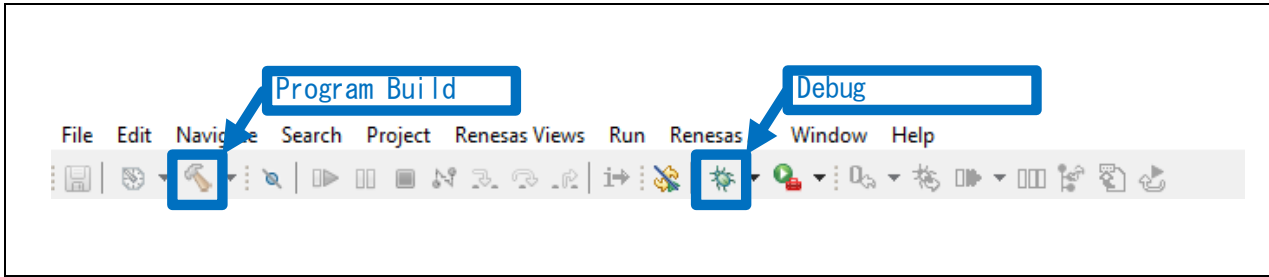
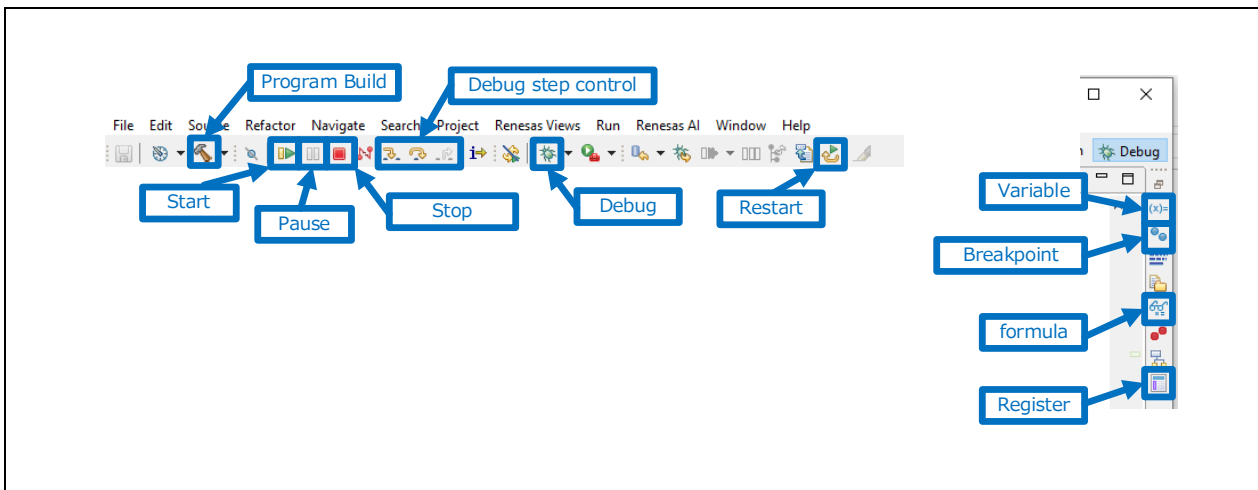
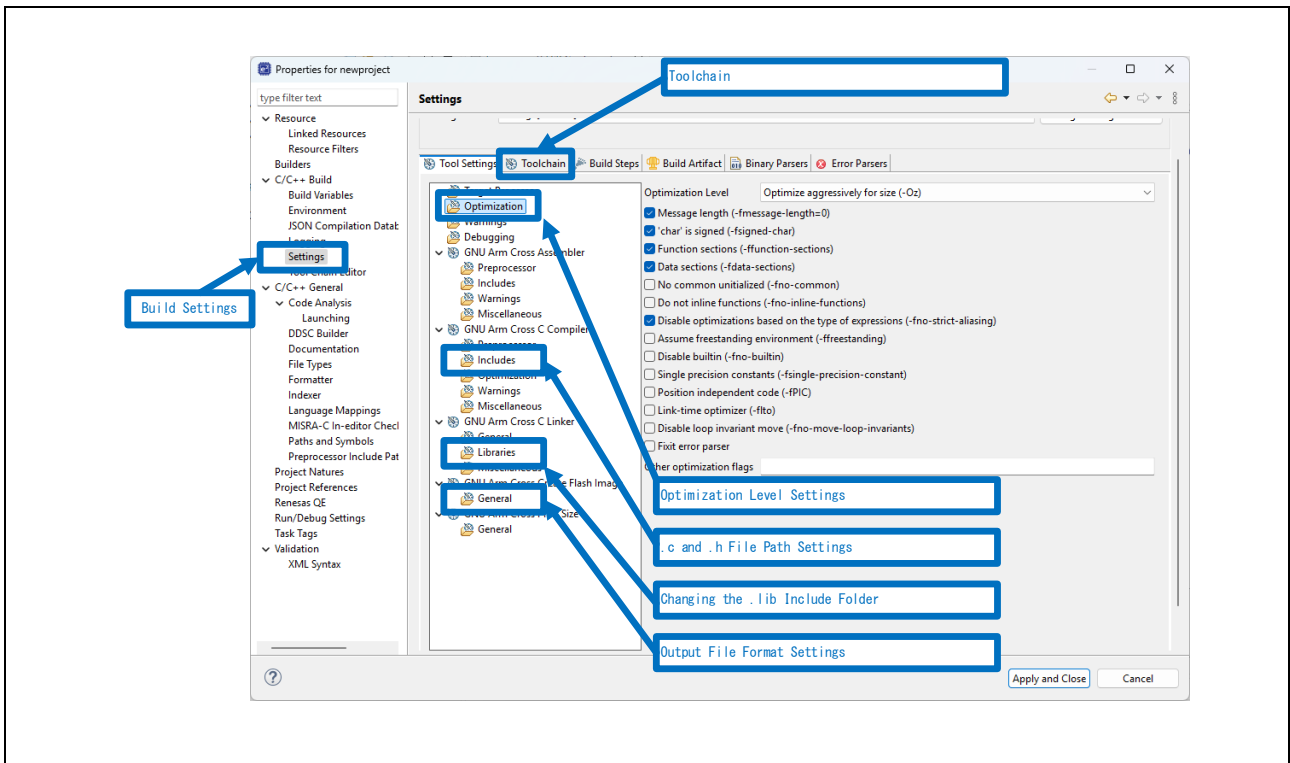
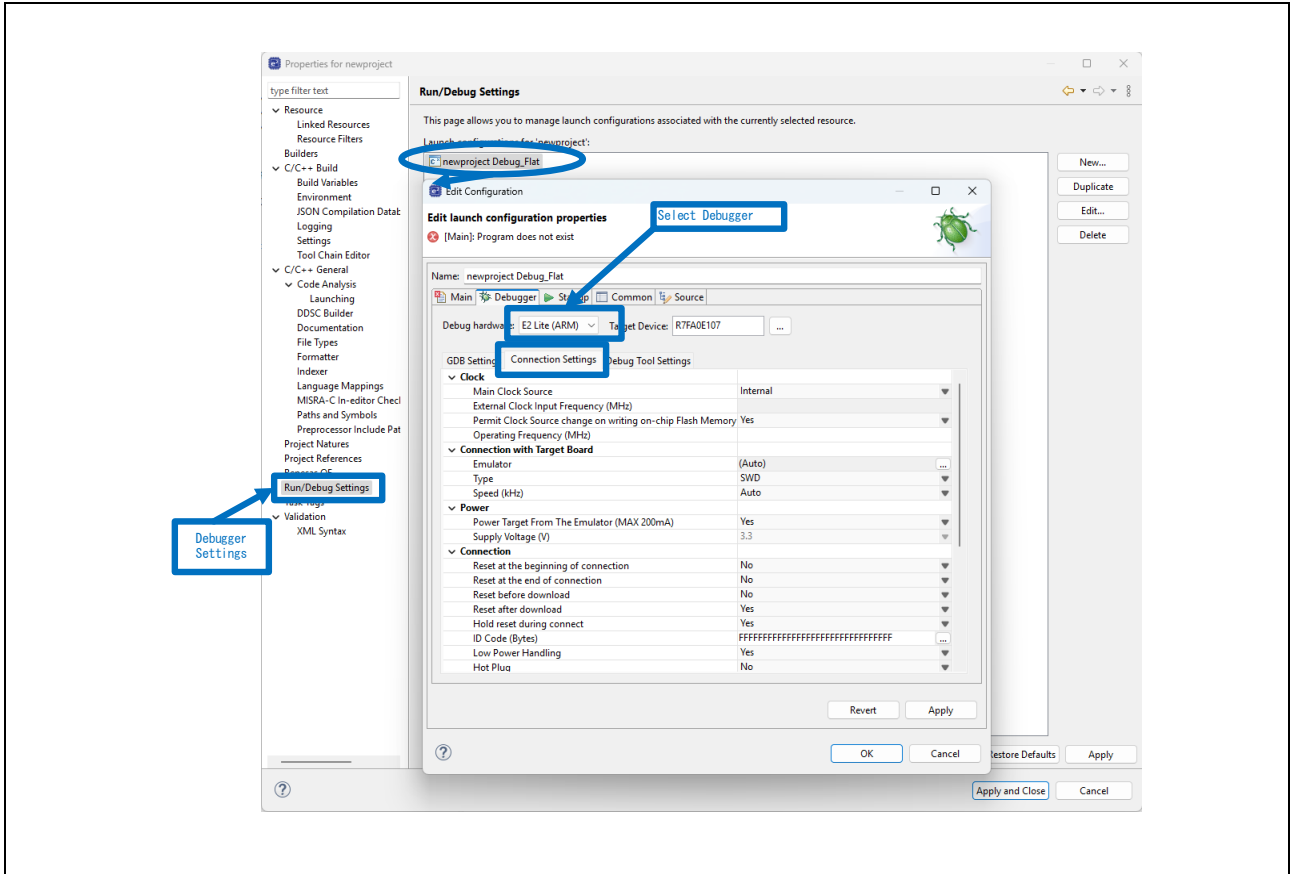

Figure 2-20 Commonly Used Functions
Figure 2-21 Commonly Used Debug Functions
Figure 2-22 Commonly Used Project Settings (1/2)
Figure 2-23 Commonly Used Project Settings (2/2)
(5) Figure 2-20, Figure 2-21, Figure 2-22, Figure 2-23 are quick introduction of the e2 studio functions.
Configure the debugger according to Figure 2-23 before debugging.